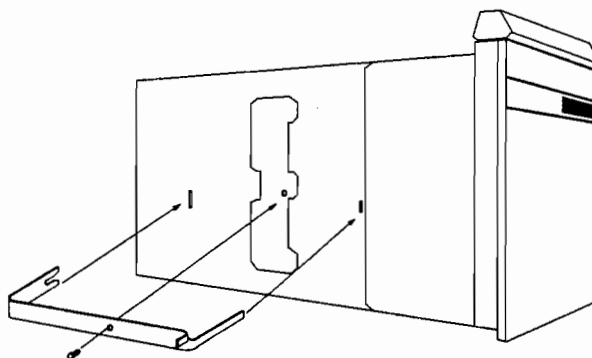

Figure 5-1. Attaching the Shipping Bracket
5. Attach the orange shipping bracket as shown in Figure 5-1.
7. Remove the shipping bracket (see Figure 5-1).